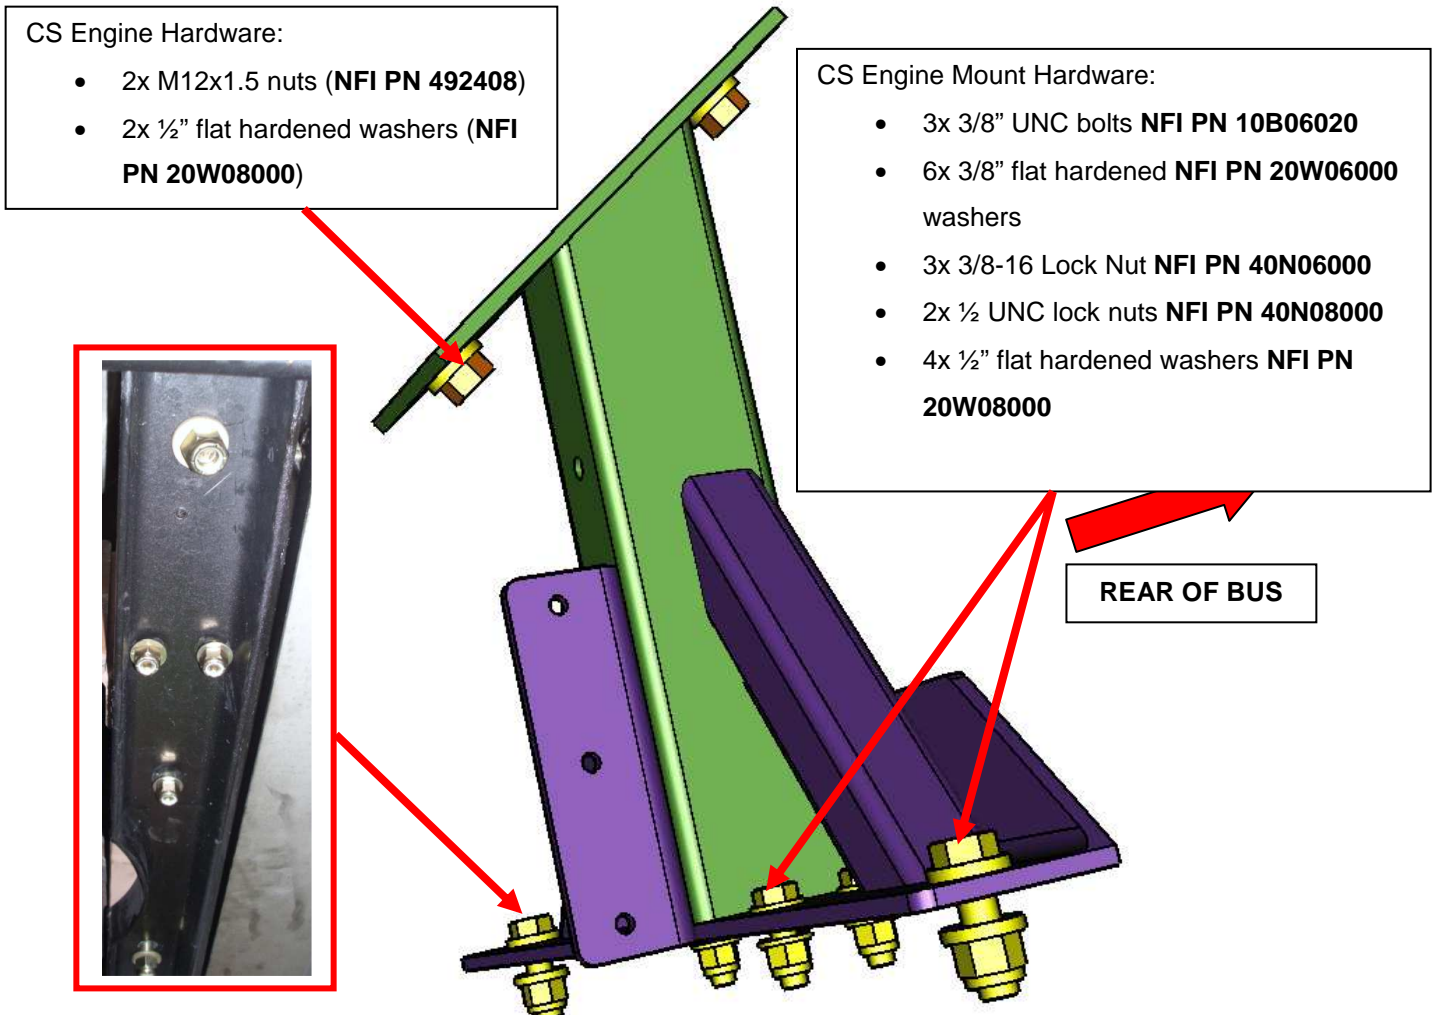

Figure 19: New CS Engine Mount
- n. Secure the new CS Engine Mount (**NFI PN 483085**) to engine cradle using two ½ UNC lock nuts **NFI PN 40N08000**, four ½" flat hardened washers **NFI PN 20W08000**, two ½" UNC bolts (1.75" long) **NFI PN 10B06064**, three 3/8" UNC bolts **NFI PN 10B06020**, six 3/8" flat hardened **NFI PN 20W06000** washers, three 3/8-16 Lock Nut **NFI PN 40N06000**, two M12x1.5 nuts (**NFI PN 492408**), and two ½" flat hardened washers **NFI PN 20W08000**. Leave hardware loose as it allows the engine to tilt for easier generator mount installation. Use Never Seize **NFI PN 5928660**. See Fig 19.